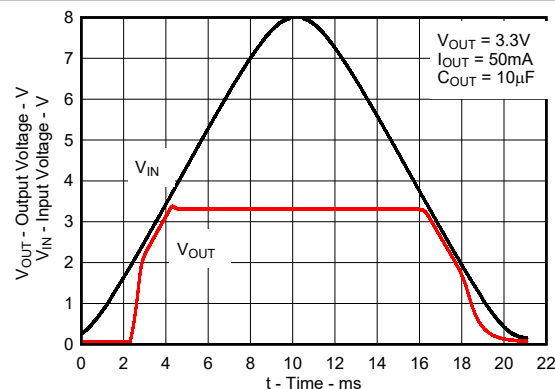

图 8-6. TPS71533-Q1 Power-Up and Power-Down Waveform for New Chip
**Figure 8-6** illustrates the input voltage ramp from 0 V to 8 V, the 3.3-V regulated output voltage, and the 50-mA output current.